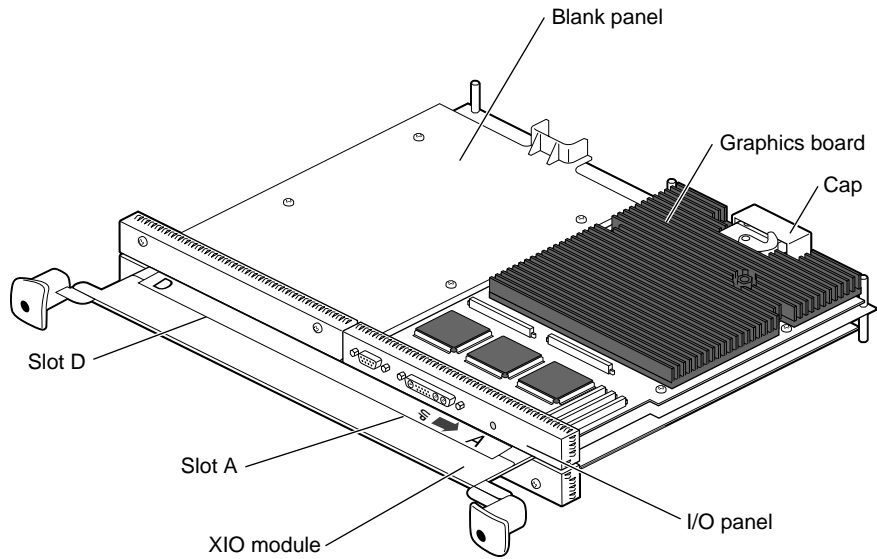

Figure 2-12 Identifying the Graphics Board
Graphics boards may be in one slot (A) or two (D and A). Figure 2-12 shows the OCTANE/SI (or SE) graphics board in Slot A. The OCTANE/SSI (or SSE) graphics board uses slots A and D.